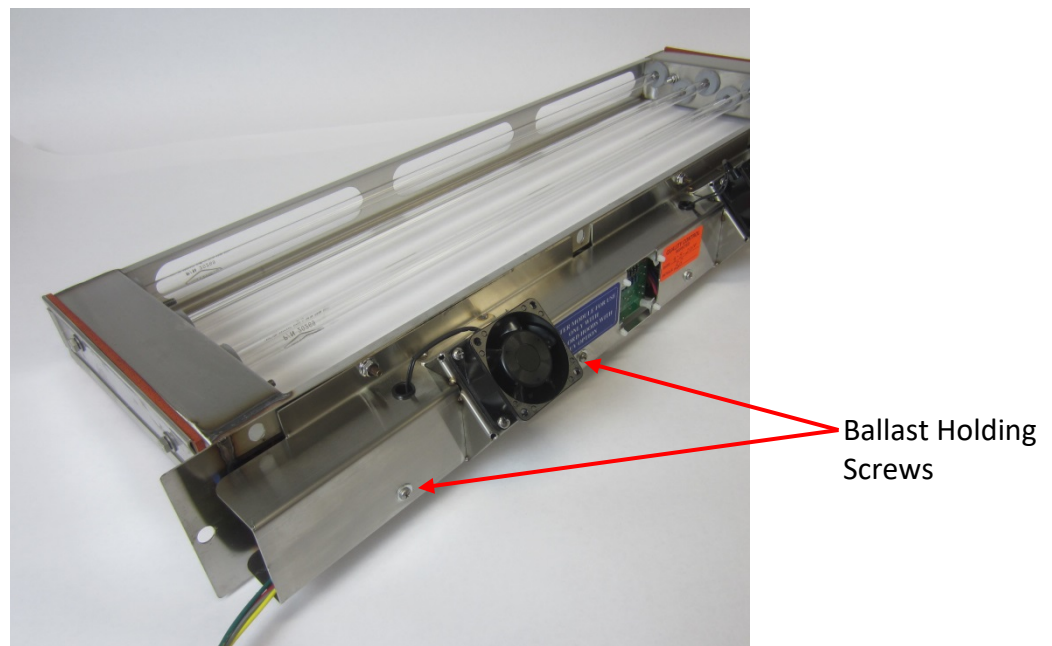

Figure 6-15-2
11. Remove the two Ballast Holding Screws, with washers, for each Ballast for which the UV Lamp Sockets need replacement (Refer to Figure 6-15-2).